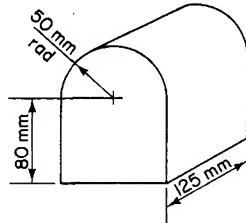

Fig. 1.52
- An iron casting is shown in Fig. 1.52. What is its mass if the density of iron is 7200 kg/m^3 .